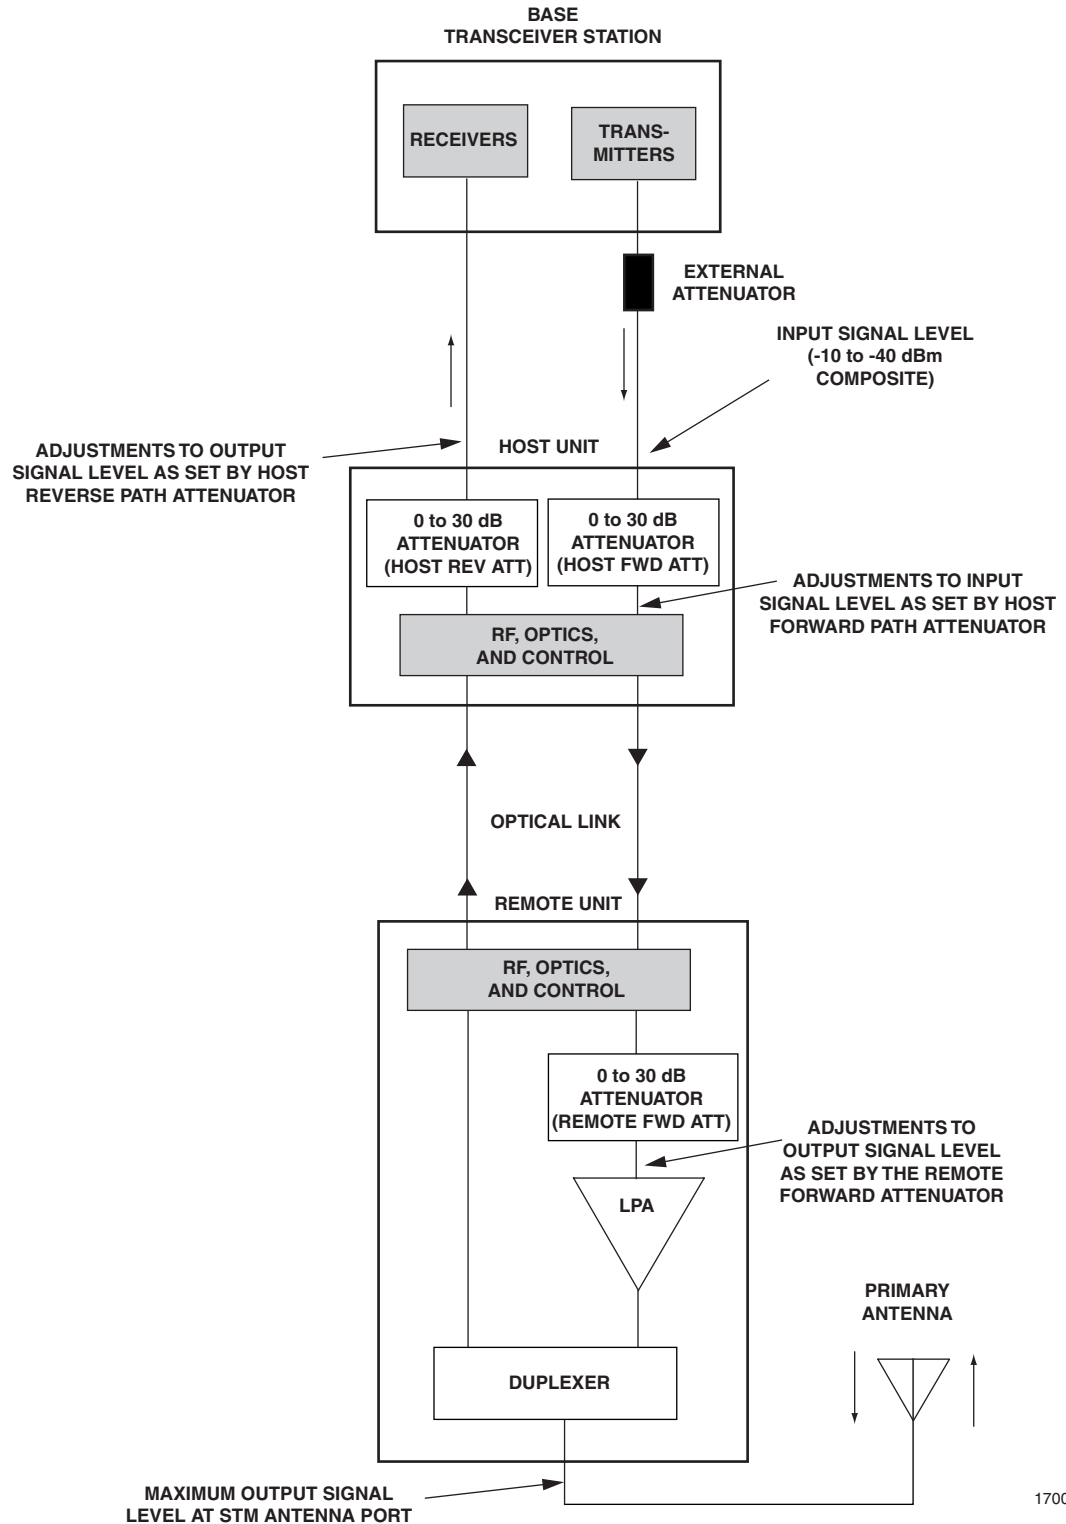

Figure 4-5. Signal Levels, Test Points, and Adjustments
1. Connect a spectrum analyzer or power meter to the forward path output port at the BTS. The required signal levels and test points are shown in Figure 4-5.